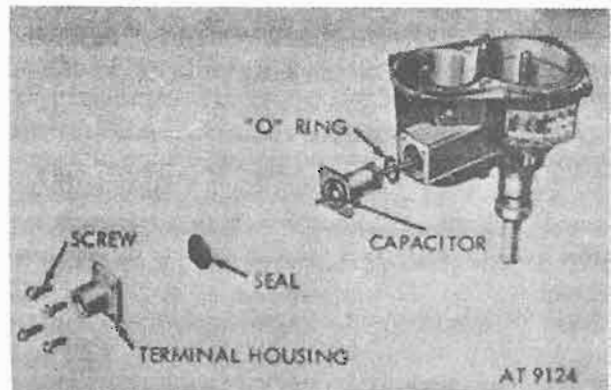

Figure 6-6. Terminal housing removal.
a. Remove four primary connector attaching screws and pull off terminal housing (fig. 6-6). Remove filter capacitor assembly with attached resistor lead. Cut lead to remove capacitor and discard. Retain capacitor mounting hardware and packings (fig. 6-6).
(1) Clean all parts of plate except condenser, leads, and contacts in mineral spirits paint thinner or drycleaning solvent.
(2) Rub contacts with linen tape, dampened with carbon tetrachloride. Dry with clean tape to remove any residue.
(3) Test condenser for capacity and grounding on condenser tester. (Use reliable test equipment and follow the manufacturer's instructions.) Discard condenser if grounded, leaky, or if it is not within limits. Discard if lead is chafed, broken, or damaged.
(4) Check primary terminal on breaker plate for grounding using test probes. Discard plate if terminal is grounded. Inspect for stripped threads and damaged or worn lever pivot. Discard plate if these conditions are found.
(5) Inspect contacts. Discard if contacts are rough, pitted or burned. (A grayish color is normal after use.)
(6) Install breaker points on plate (6.2) and check fit of movable breaker point on pivot. It must turn easily, without binding or excessive looseness. Discard plate if pivot is worn or loose or if not perpendicular to plate.
(7) Install condenser on breaker plate and connect cable to primary terminal. Breaker point spring must be installed on the inner side of the terminal.
(8) Place one drop of oil (PL) on breaker point pivot. Operate lever once or twice and wipe excess oil from top end of pivot.
e. Primary Connector (fig. 6-6).
(1) Clean all parts of unit with cloth dampened in mineral spirits paint thinner or drycleaning solvent.
(2) Inspect capacitor for damaged or corroded connector pin, lead, and terminal. Check for groundings using test probes, by testing between terminal pin and connector body. Discard capacitor if grounded.
e. Insert new filter capacitor assembly into base. Existing packing should be placed on capacitor prior to insertion. Use existing hardware to retain capacitor (fig. 6-6).